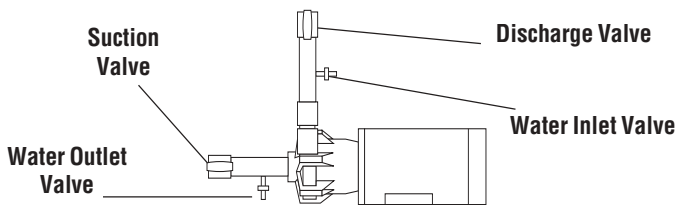

Figure 3
**IMPORTANT:** To protect the pump if prime is lost, use one of the following: (1) pressure switch on the discharge; (2) vacuum switch on the suction; (3) a motor minder to monitor motor current.
- When pumping liquids which may solidify or crystallize, a flush system should be added to the piping. See Figure 3. Install water inlet and outlet valves as shown.